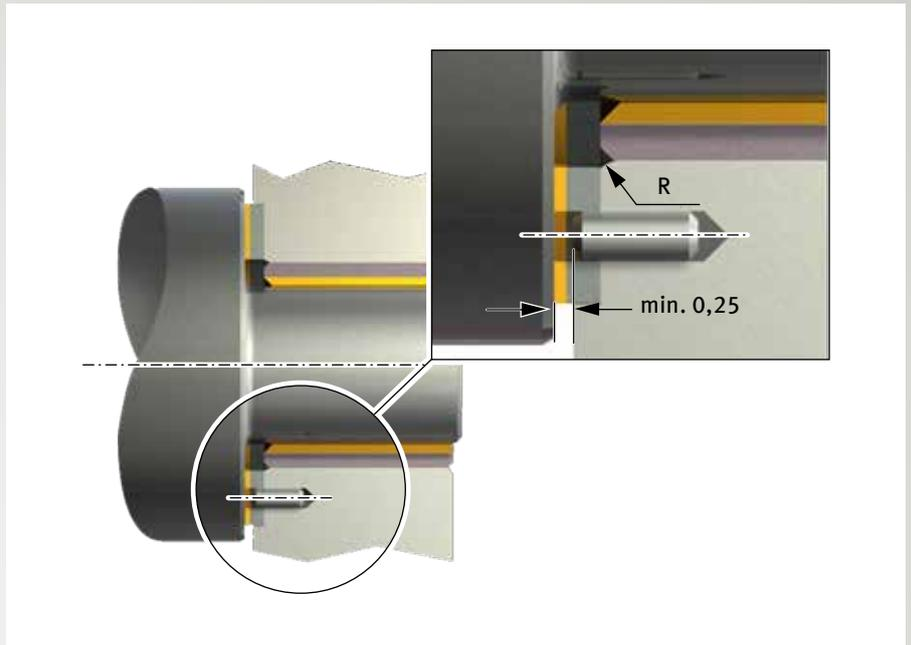

Fig. 41: Securing a PAW thrust washer in a recess in the housing
- A concentric fit is ensured by the recess in the housing (Fig. 41)
- Unwanted rotation with the shaft is prevented by means of a dowel pin or countersunk screw (Figs. 41 and 42)
- The screw head or dowel pin must be recessed by min. 0.25 mm from the sliding surface (Figs. 41 and 42)